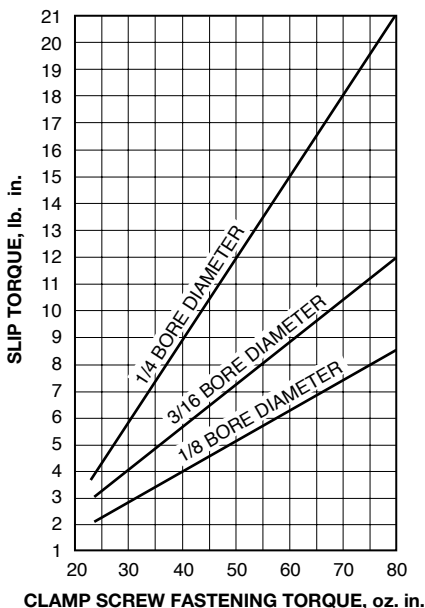

Figure 1
**Figure 1** shows the torque at which the sample Fairloc® gears started to slip on the shaft.